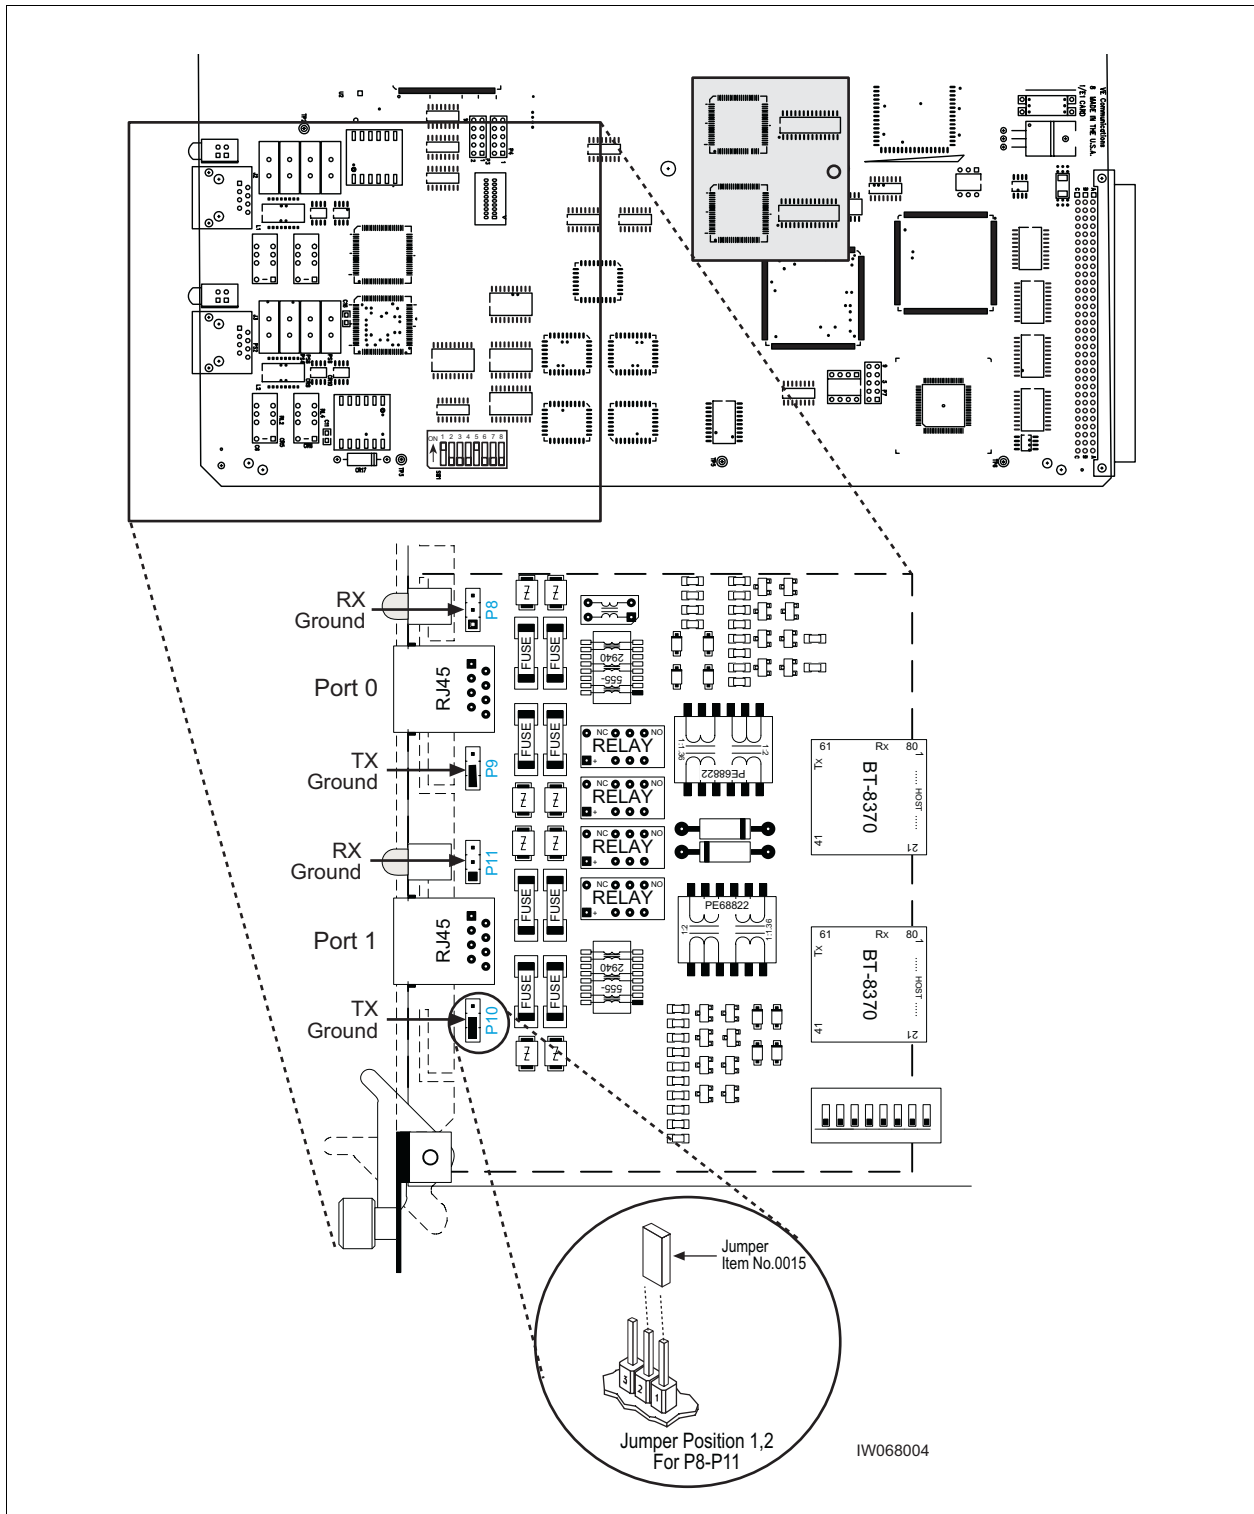

Figure 2-6: Ground Jumpers (P8 through P11)
- 5 See Figure 2-6 to locate jumpers P8 through P11.
Figure 2-6 shows the location of the grounding jumpers.